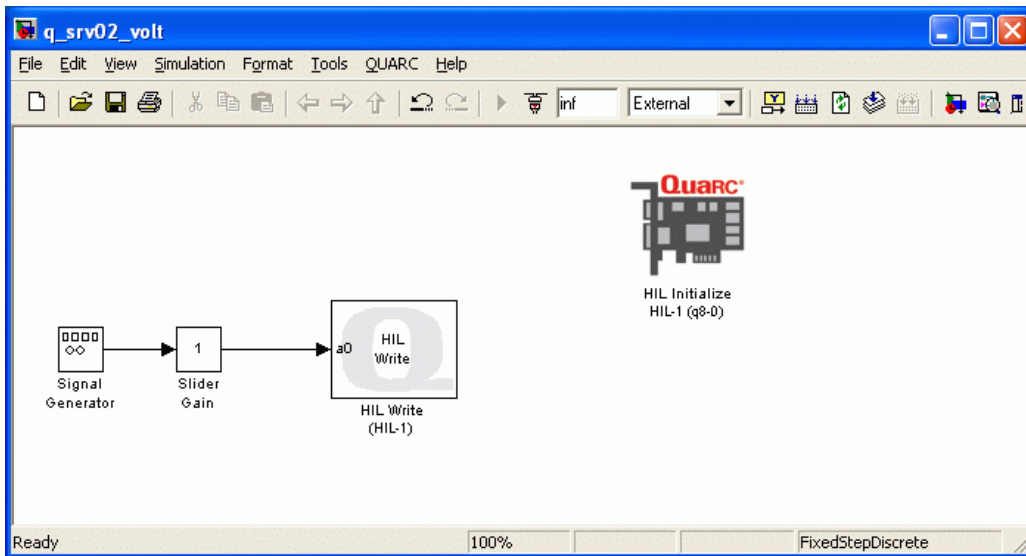

Figure 1: Sample Simulink Model used to feed sinusoid voltage to the SRV02.
In this section, it is shown how to design a Simulink Model using QUARC blocks to feed a sinusoid voltage to the SRV02, as shown in Figure 1. The blocks from the *QUARC Targets* library are used to interact with the data acquisition board, e.g. Quanser Q2-USB or QPID device.
8. Add a Signal Generator block (*Simulink \ Source* folder), a Slider Gain block (*Simulink \ Math Operations* category), and a Gain (*Simulink \ Math Operations* category) into the Simulink model. Connect the blocks as shown in Figure 1.